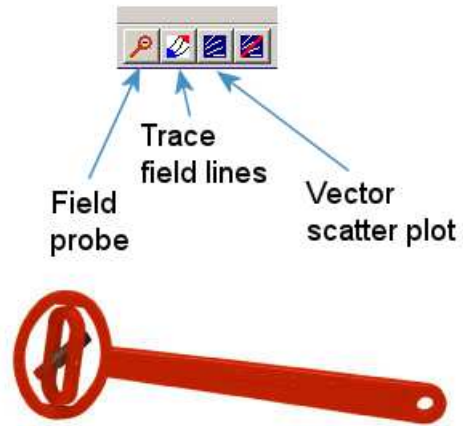

Figure 46: Tools to display vector information in the slice plot menu.
**MagView** has useful tools to display the direction of the vector quantities **B** and **H** in slice plots. Figure 46 shows the corresponding entries on the toolbar.
This feature was inspired by the familiar Magnaprobe illustrated in Fig. 46. When you click on the tool and move the cursor into the slice-plot area, it changes to a semi-transparent probe that rotates about a pivot point to show the direction of the chosen field quantity. The probe functions in all plot styles and may be combined with field-line traces and scatter plots. The status bar shows the coordinates and  $|\mathbf{B}|$  at the pivot point.